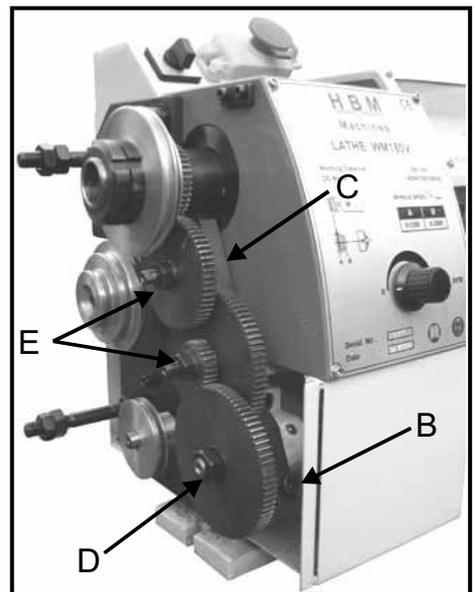
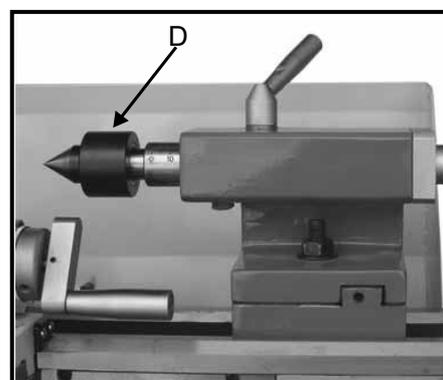

Fig. 19
Fig. 29
3. Loosen the locking screw (B, Fig.19) on the quadrant.
4. Swing the quadrant (C, Fig.19) to the right.
5. Unscrew the nut (D, Fig.29) from the leadscrew or the nuts (E, Fig.19) from the quadrant bolts in order to remove the change gears from the front.
The live center is mounted in ball bearings. Its use is highly recommended for turning at speeds in excess of 600 RPM. (Fig.29)